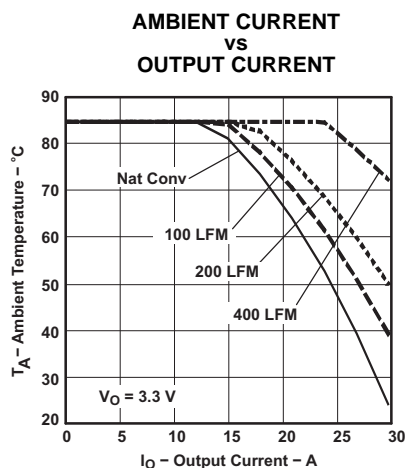
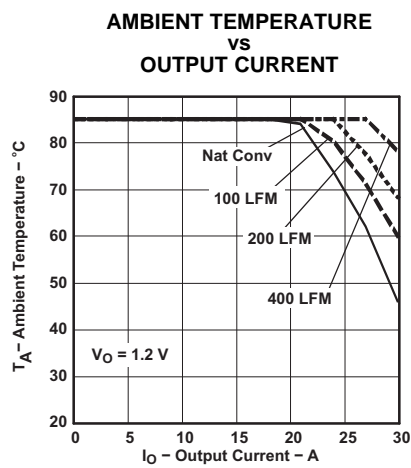

Figure 4.
Figure 5.
- (2) The temperature derating curves represent the conditions at which internal components are at or below the manufacturer's maximum operating temperatures. Derating limits apply to modules soldered directly to a 100 mm × 100 mm double-sided PCB with 2 oz. copper. Applies to Figure 5 and Figure 4.